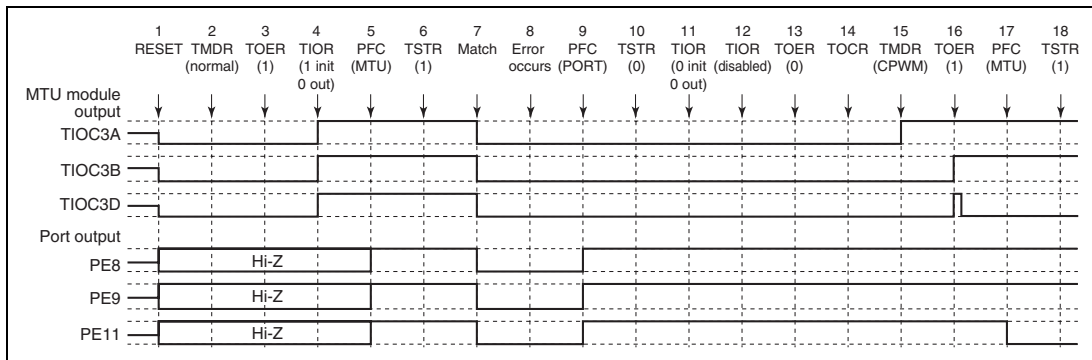

Figure 8.89 Error Occurrence in Normal Mode, Recovery in Reset-Synchronous PWM Mode
(6) Operation when Error Occurs during Normal Mode Operation, and Operation is Restarted in Reset-Synchronous PWM Mode: Figure 8.89 shows an explanatory diagram of the case where an error occurs in normal mode and operation is restarted in reset-synchronous PWM mode after re-setting.